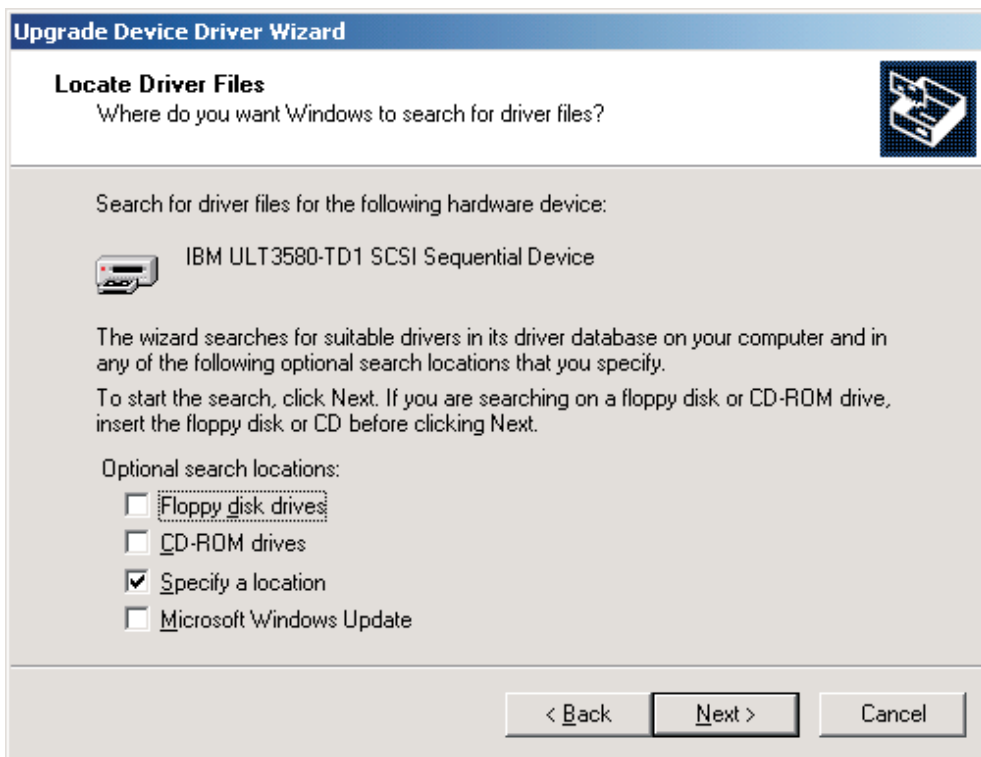

Figure 30. Locate Driver Files Screen with Specify a Location Selected
5. Select the **Specify a location** checkbox and clear all other checkboxes. Click **Next >**. See Figure 30 on page 244.